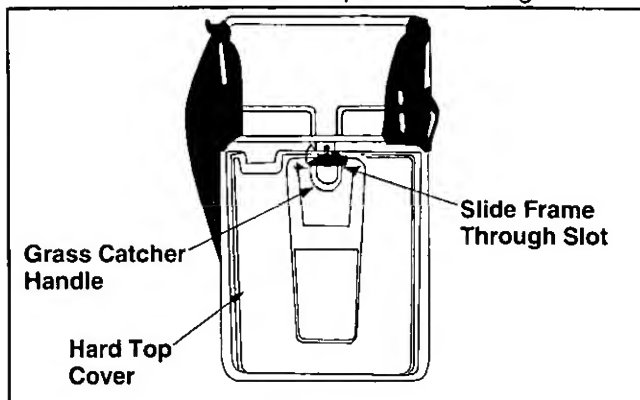

Figure 8
- Hold the bag and the frame so that the grass bag hangs from the frame and not bunched around it. Slide the handle on the grass catcher frame down into the slot in the hard top cover. See Figure 8.